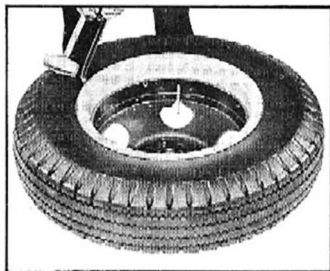
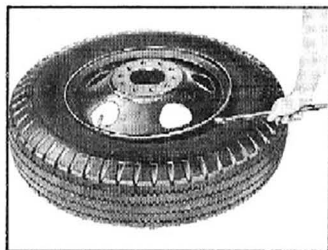

Fig. 84—Loosening Bead Seat
Fig. 86—Loosening Opposite Tire Bead
2. Loosen the tire bead from its seat in the side ring by driving the bead loosening end of a tire iron between the tire bead and the side ring (fig. 84). Repeat this operating progressively around the side ring prying until bead is loose.
5. To free opposite tire bead from wheel rim, turn tire over and repeat bead loosening operation (fig. 86).
NOTE: It is not necessary to remove side ring from tire bead if tire is to be removed for tube repair only. Simply loosen tire bead from rim as in Figure 84. Then turn assembly over and remove ring with tire attached as in Figure 86.